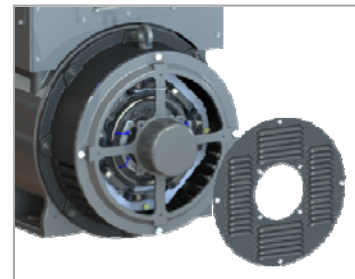

Figure 14.40: Installation of shutter cover
- 7) Perform the PMG electrical connection, according to the instructions and connection diagram shown in item 14.3.2 of this document.
- 8) Install the shutter cover, fastening it through 08 hexagon headed screws M6 with torque of 8 to 10 Nm, according to Figure 14.40;